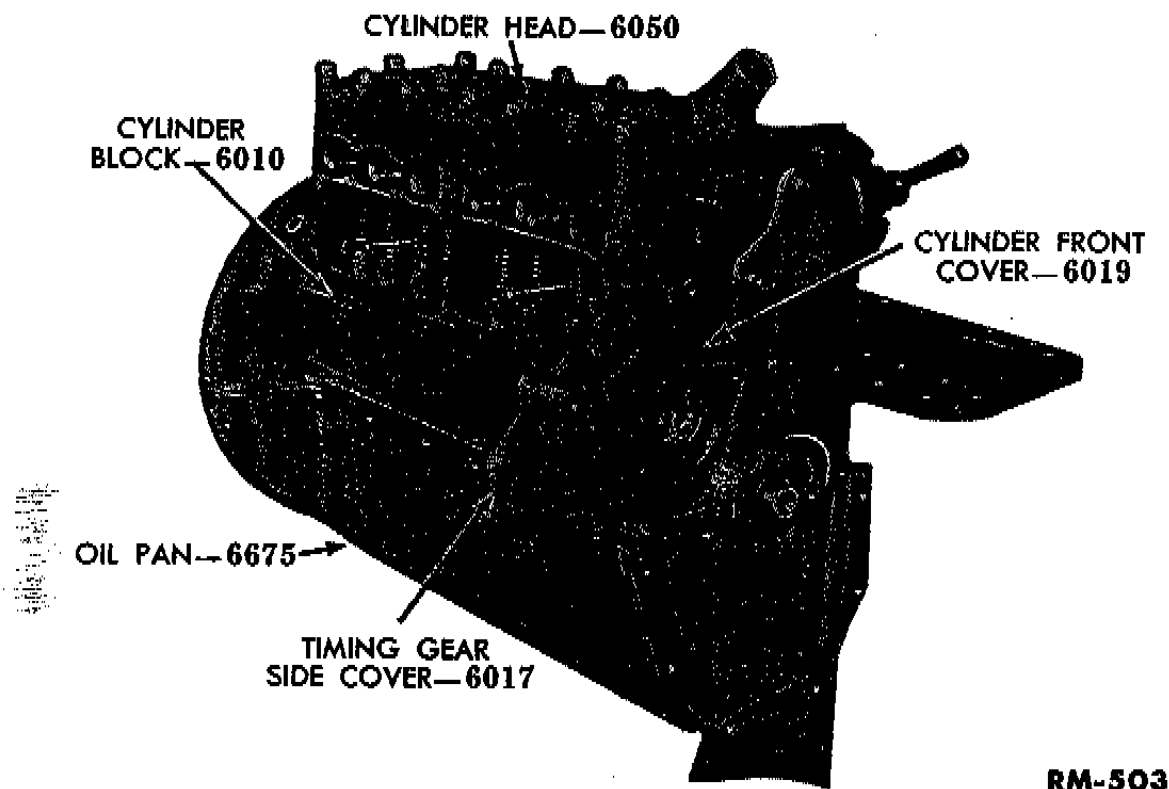
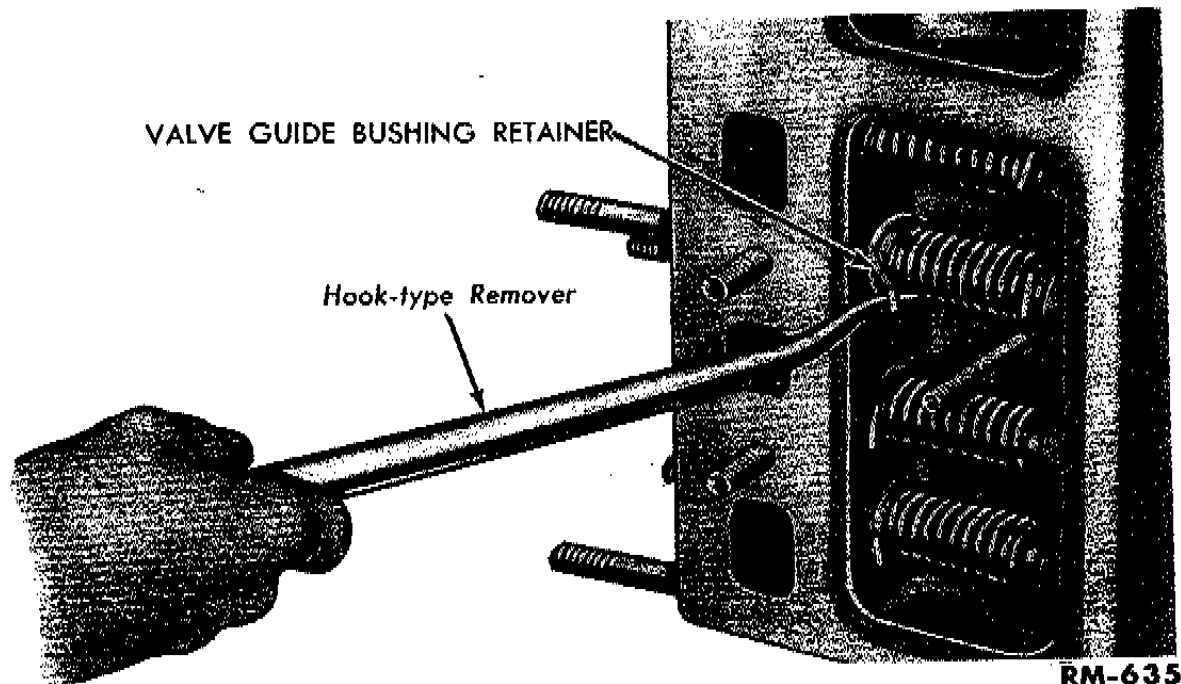

Fig. 3—Stripped Engine
Fig. 4—Removing Valve Guide Bushing Retainer
e. **Remove Cylinder Head.** Remove all the nuts that hold the head to the cylinder block. Remove the cylinder head and gasket (fig. 3).
f. **Remove Valve Assemblies and Camshaft.** Remove the cylinder front cover (fig. 3) from the cylinder block. Remove the nut and flat washer from each valve chamber cover. Remove the valve guide bushing retainer with a hook-type remover (fig. 4) from all valves that are in the closed position. Turn the crankshaft until those valves which were in an open position are in the closed position. Repeat the above procedure, and remove the remaining retainers. Remove the valve assemblies from the